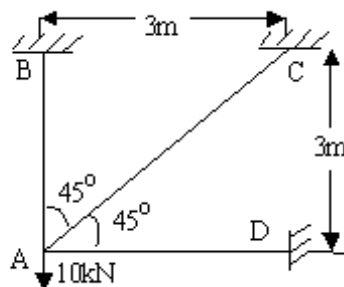

Figure 21:
6. For the three bar truss shown in figure 21 below, determine the displacements of node 'A' and the stresses in the three elements, assuming that the other three nodes are fixed. Take $A=300 \text{ mm}^2$; $E=200 \text{ GPa}$. [16]